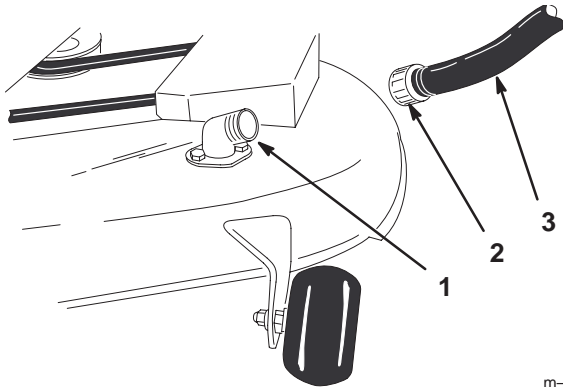

Figure 47
- Attach the hose coupling to the end of the mower washout fitting, and turn the water on high (Fig. 47).